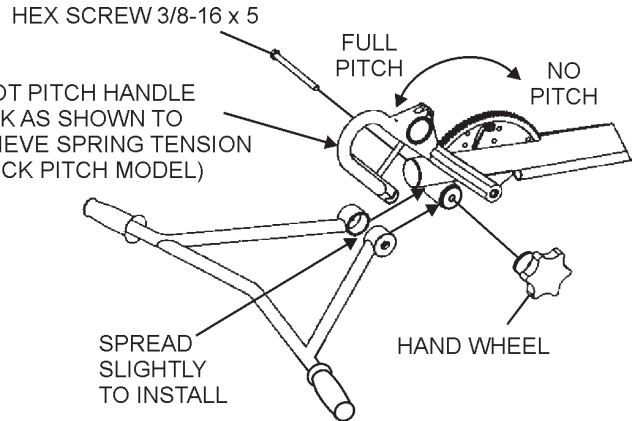

Figure 6. Handlebar Installation
2. On Quick-Pitch™ models, pivot the **Quick-Pitch™ Handle** back (full pitch), (Figure 6). This will relax the spring inside the handle tube. On either model, spread the handle bar ends just enough to engage the teeth on the handle tube. Attach the hand wheel assembly, position handlebar to desired location, and tighten hand wheel firmly.